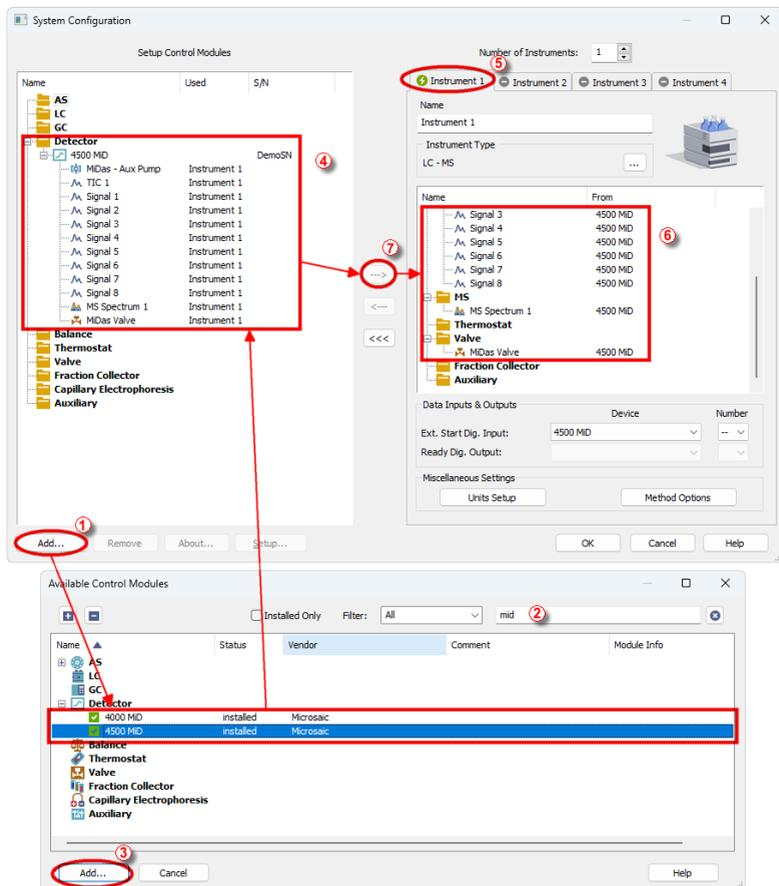

Fig. 2: How to add Microsaic 4500 MiD
- Press the **Add** button (1) (see Fig. 2 on pg. 5.) to invoke the **Available Control Modules** dialog.
- You can specify the searching filter (2) to simplify the finding of the driver.
- Select the **4500 MiD** and press the **Add** (3) button.